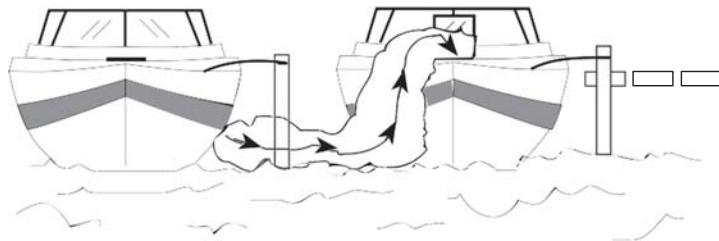

Figure 2.2 - Exhaust fumes from vessel alongside
**DANGER:** Generator or hull exhaust from other vessels alongside your boat, while docked or anchored, can emit carbon monoxide and cause excessive accumulation within the cabin and cockpit areas. Be alert for generator exhaust from other vessels alongside. (Figure 2.2)